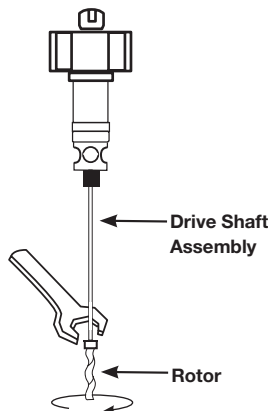

Figure 8
10. Hold the drive shaft in a fixed position and loosen the rotor (counterclockwise) located at the bottom of the drive shaft (see Figure 8).
- Thread rotor onto drive shaft (see Figure 8).